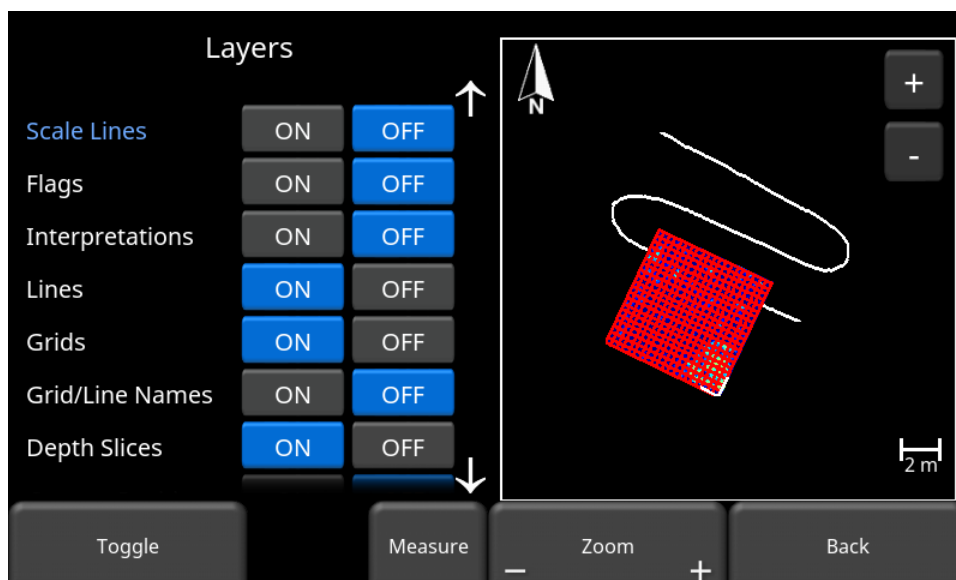

Figure 9-9: Names of grids and lines turned off
- **Grid/Line Names** - the name of each line and grid is shown beside it. Turning this off will remove the displayed name. Note that the lines and grids must be shown for the name display only to be turned off (Figure 9-9).